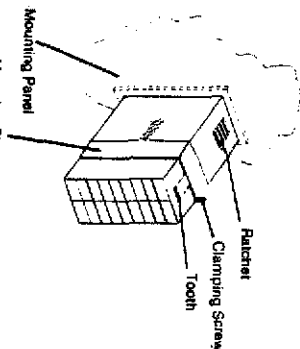
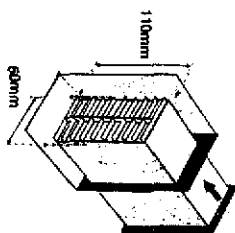

Figure 2-2 Panel-mounting a Controller
Figure 2-3 Chassis Mounting Bracket
2. Slide the mounting clamp into place on the Controller (see Figure 2-2) and push it forward until it touches the rear face of panel. Teeth on the arms which project to the rear of the clamp will engage with the ratchets moulded into the top and bottom surfaces of the Controller housing.
The Controller may be mounted in the same manner as the standard 3810 Controller (see Subsection 2.2.2 and Figure 2-2) or it may be secured with a Chassis Mounting Bracket (Product Code X76) as described in the following procedure (see also Figure 2-3):